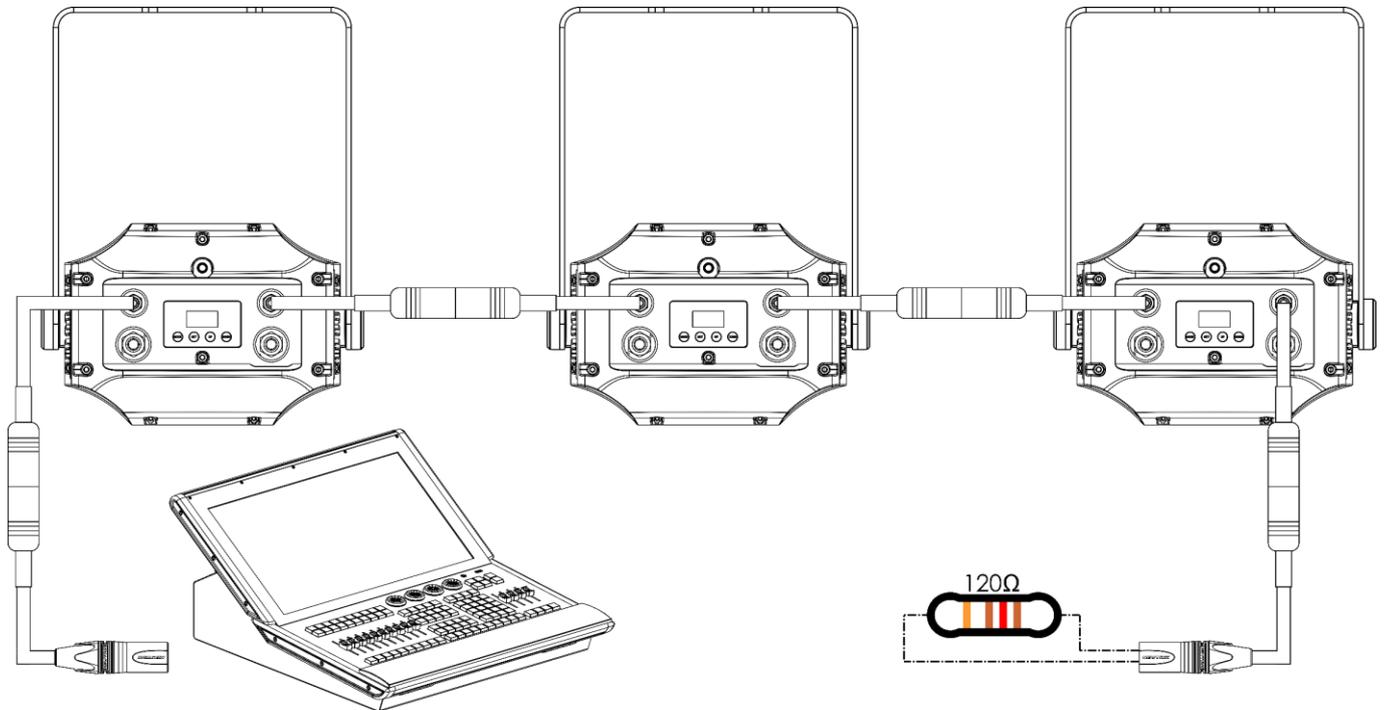

Fig. 12
- 03) Repeat step 2 to connect all devices in a daisy-chain as shown in Fig. 12.